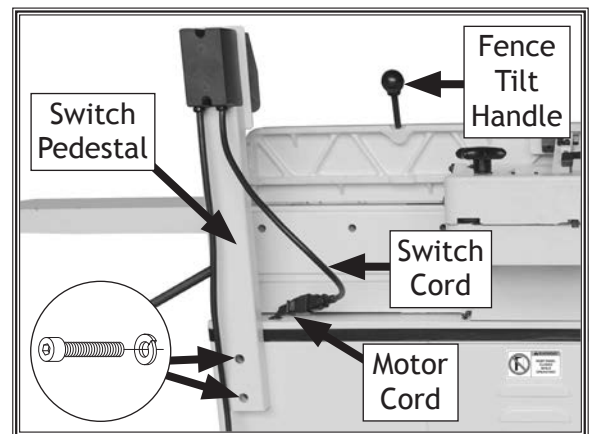

Figure 12. Switch pedestal attached to stand, cords connected, and fence tilt handle installed.
- Reposition and secure switch pedestal (see **Figure 12**) in upright position with (2) pre-installed M8-1.25 x 20 cap screws and (2) 8mm lock washers.
- Connect switch cord to motor cord and install fence tilt handle (see **Figure 12**).